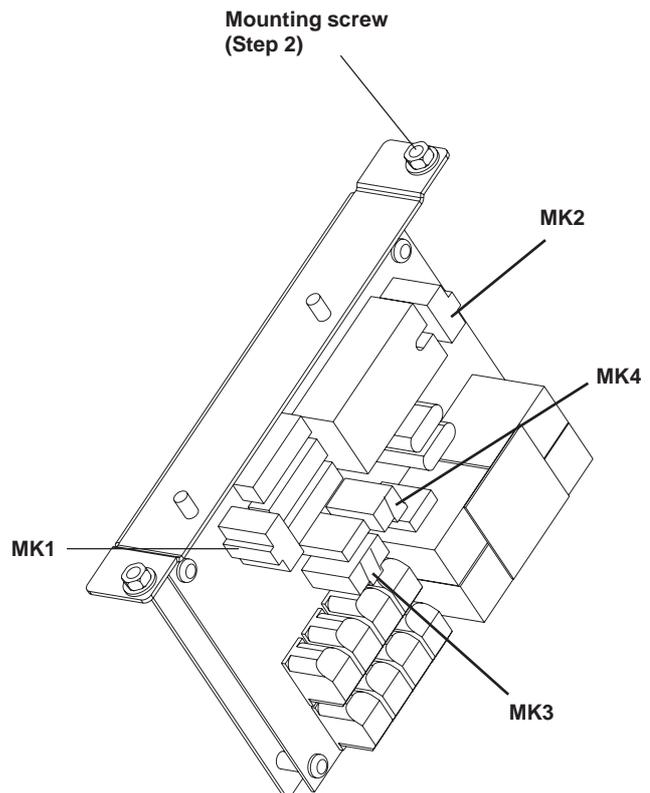

Figure 6-4. Soft Charge Card Assy
2. MK4 connector on soft charge card must be disconnected. Disengage soft charge card from far enough to access MK4 (see Figure 6-4) in accordance with steps 1-3 in soft charge card disassembly procedure.